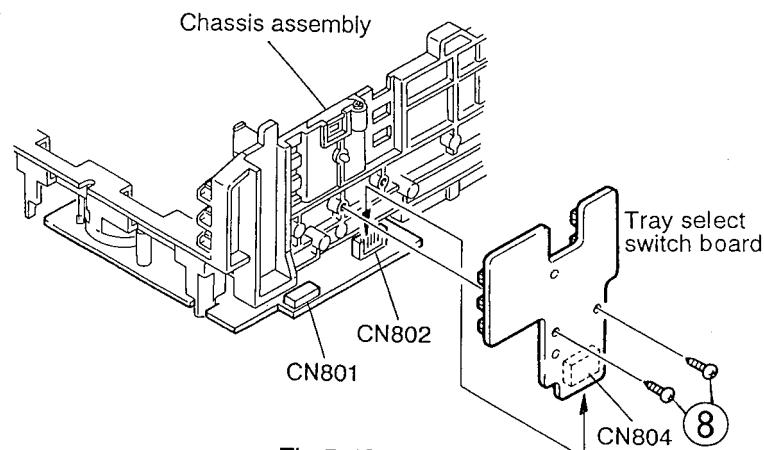

Fig.5-49
- Remove the two screws ⑧ retaining the tray select switch board (See Fig. 5-49).